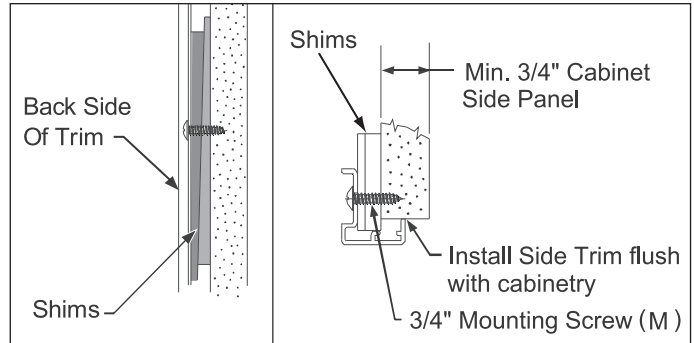

Figure 2-16.
4. Shim as necessary (shims are not included). (See Figures 2-16 and 2-17). Next, secure both ends of top trim (A) to cabinetry using two 3/4" mounting screw (M) through the holes at each end. Make sure all screws are snug across the top.